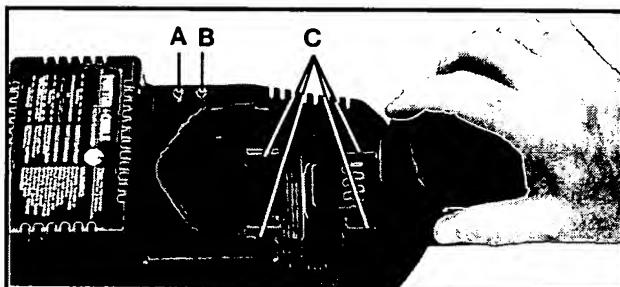
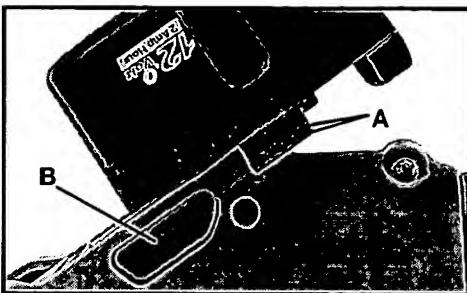

Fig. 23
Fig. 24
Make sure power circuit voltage is the same as that shown on the charger specification plate. Connect charger to power source. The green light (A) Fig. 23, should begin to flash. This indicates the charger is ready to begin charging.
Position battery pack on charger, align rails (A) Fig. 24 on battery pack with four tabs (C) Fig. 23 on charger. Slide battery forward onto charger until it stops.
The green light (A) Fig. 23, should begin to glow continuously, indicating that the battery pack is receiving a "Fast Charge" (if the green light does not glow continuously, or if the red light (B) Fig. 23, also begins to flash: see **DIAGNOSTICS**). After approximately one hour, the "Fast Charge" indicator light should go out indicating that the battery pack is fully charged and that the charger is now in a "Trickle Charge" mode. The battery pack can be left on "Trickle Charge" until you are ready to use it.
The Porter-Cable Charger is equipped with a diagnostic system that automatically checks the battery pack each time a pack is inserted into the charger. If no problems are found, the charger will automatically switch to "Fast Charge" mode as described in NORMAL CHARGING. If a problem is found, it will be indicated by the charger indicator lights (see Fig. 23), as follows:
TO REMOVE BATTERY PACK: Depress the battery release button (B) Fig. 24, and pull battery pack out of tool. **NOTE:** As an added safety feature, depressing the battery release button opens the internal pressure relief valve.
TO INSTALL BATTERY PACK: Align rails (A) Fig. 24, on battery pack with slots on tool and push battery pack onto tool until it locks in place.